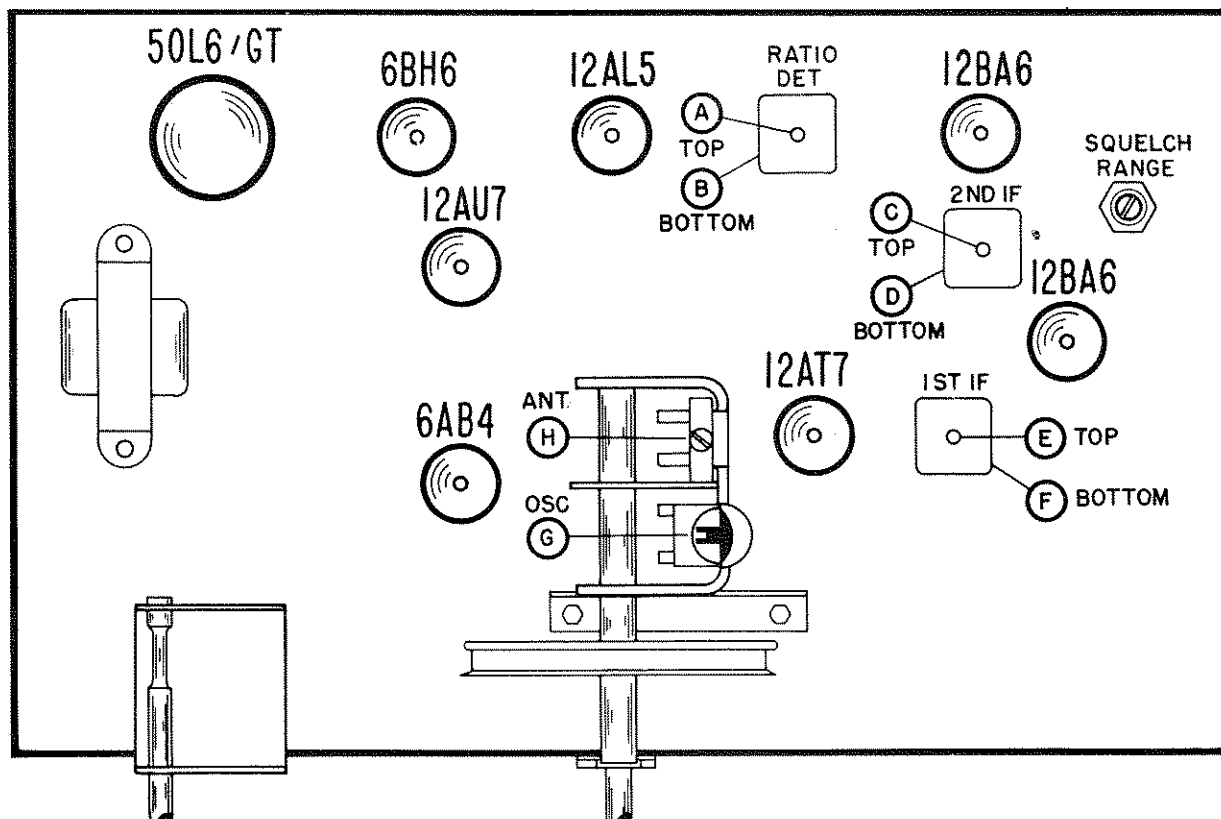

Fig. 4. Tube Location and Alignment Adjustments
The Squelch Range control (Fig. 4) adjusts the operating point of the output section of the 12AU7 squelch tube (V-8). This control has been carefully adjusted at the factory for proper operation and will normally not require readjustment unless the squelch tube, relay, or components in the squelch circuit have been replaced. If adjustment is necessary, proceed as follows:
- See Fig. 4 for location of alignment adjustments.